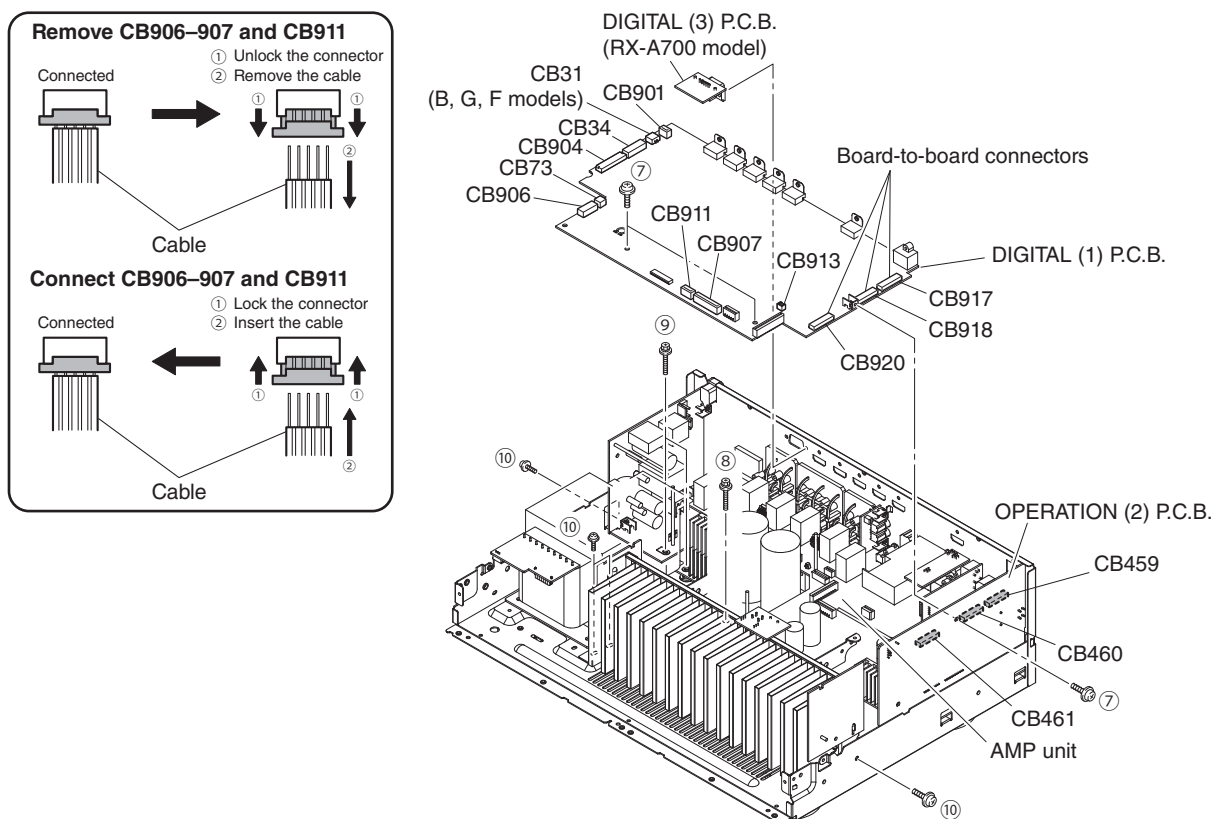

Fig. 2
- Remove CB901 and remove the DIGITAL (3) P.C.B. (Fig. 2)
- Remove 3 screws. (⑦). (Fig. 2)
- Remove CB34, CB73, CB904, CB913 and CB31 (B, G, F models). (Fig. 2)
- Unlock and remove CB906-907 and CB911. (Fig. 2)
- Remove the DIGITAL P.C.B. which is connected directly to the OPERATION (2) P.C.B. with board-to-board connectors. (Fig. 2)
- Remove screw (⑧), 2 screws (⑨) and 4 screws (⑩). (Fig. 2)
- Remove the amp unit. (Fig. 2)
- c. Remove screw (⑧), 2 screws (⑨) and 5 screws (⑩). (Fig. 2)